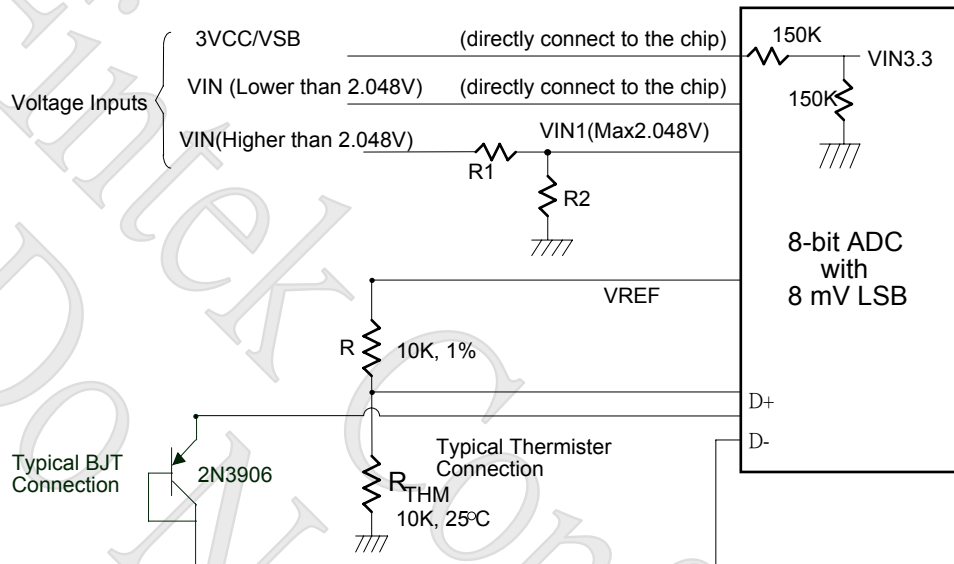

Figure 2. Hardware monitor configuration
The F71869 can connect three thermistors to measure environment temperature or remote temperature. The specification of thermistor should be considered to (1)  $\beta$  value is 3435K (2) resistor value is 10K ohm at 25°C. In the Figure 2, the thermistor is connected by a serial resistor with 10K ohm, then being connected to VREF.
Also, if the CPU, GPU or external circuits provide thermal diode for temperature measurement, the F71869 is capable to these situations. The build-in reference table is for PNP 2N3906 transistor. In the Figure 2, the transistor is directly connected into temperature pins.